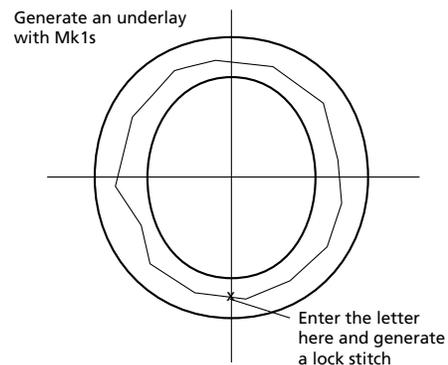

Figure 5-26
1. Perform the needle up, Mk1, normal stitch, Mk1 sequence to move to the bottom middle area of the letter o (see Figure 5-26).
2. Generate lock stitches in the letter o in a vertical direction where shown in Figure 5-26.
3. Using Mk1s, generate a running stitch underlay completely around the letter (see Figure 5-26). Finish with a Mk1 near your lock stitches.